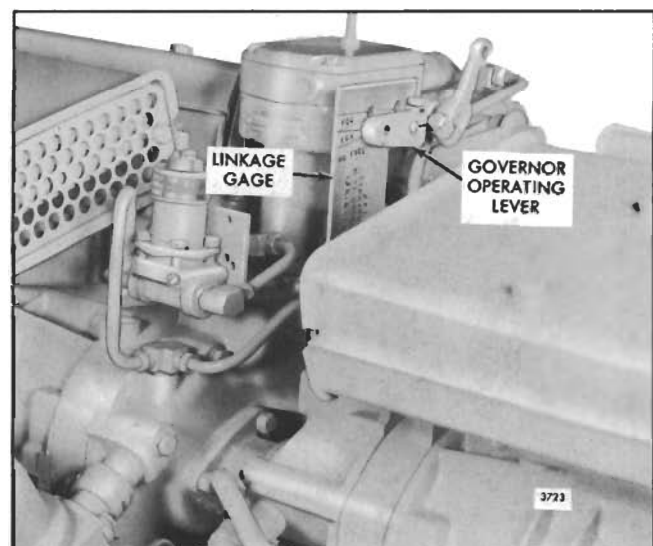

Fig. 6 - Positioning Governor Operating Lever
12. Replace the governor operating lever on the serrated shaft so that the bolt hole is lined up within the proper lines on the gage. The type of governor (SGX or PSG) will determine the proper position of the lever (Fig. 6).